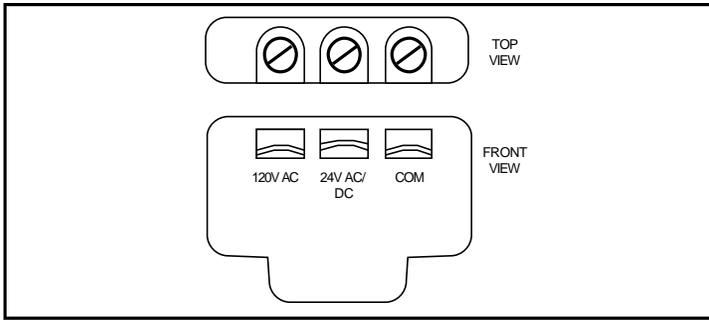

Figure 4. Terminal Block
3. Refer to Figure 4 and connect as instructed below:
4. Mount the connected assembly onto the floor plate and secure it using (2) #1/4-20 x 1" screws (supplied).